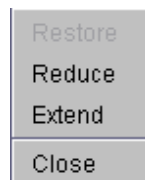

Figure 141 : Contextual menu
- ◆ Click with the mouse right button on the button corresponding to an opened architecture at the bottom of the work area; the following contextual menu (Figure 141) is displayed: